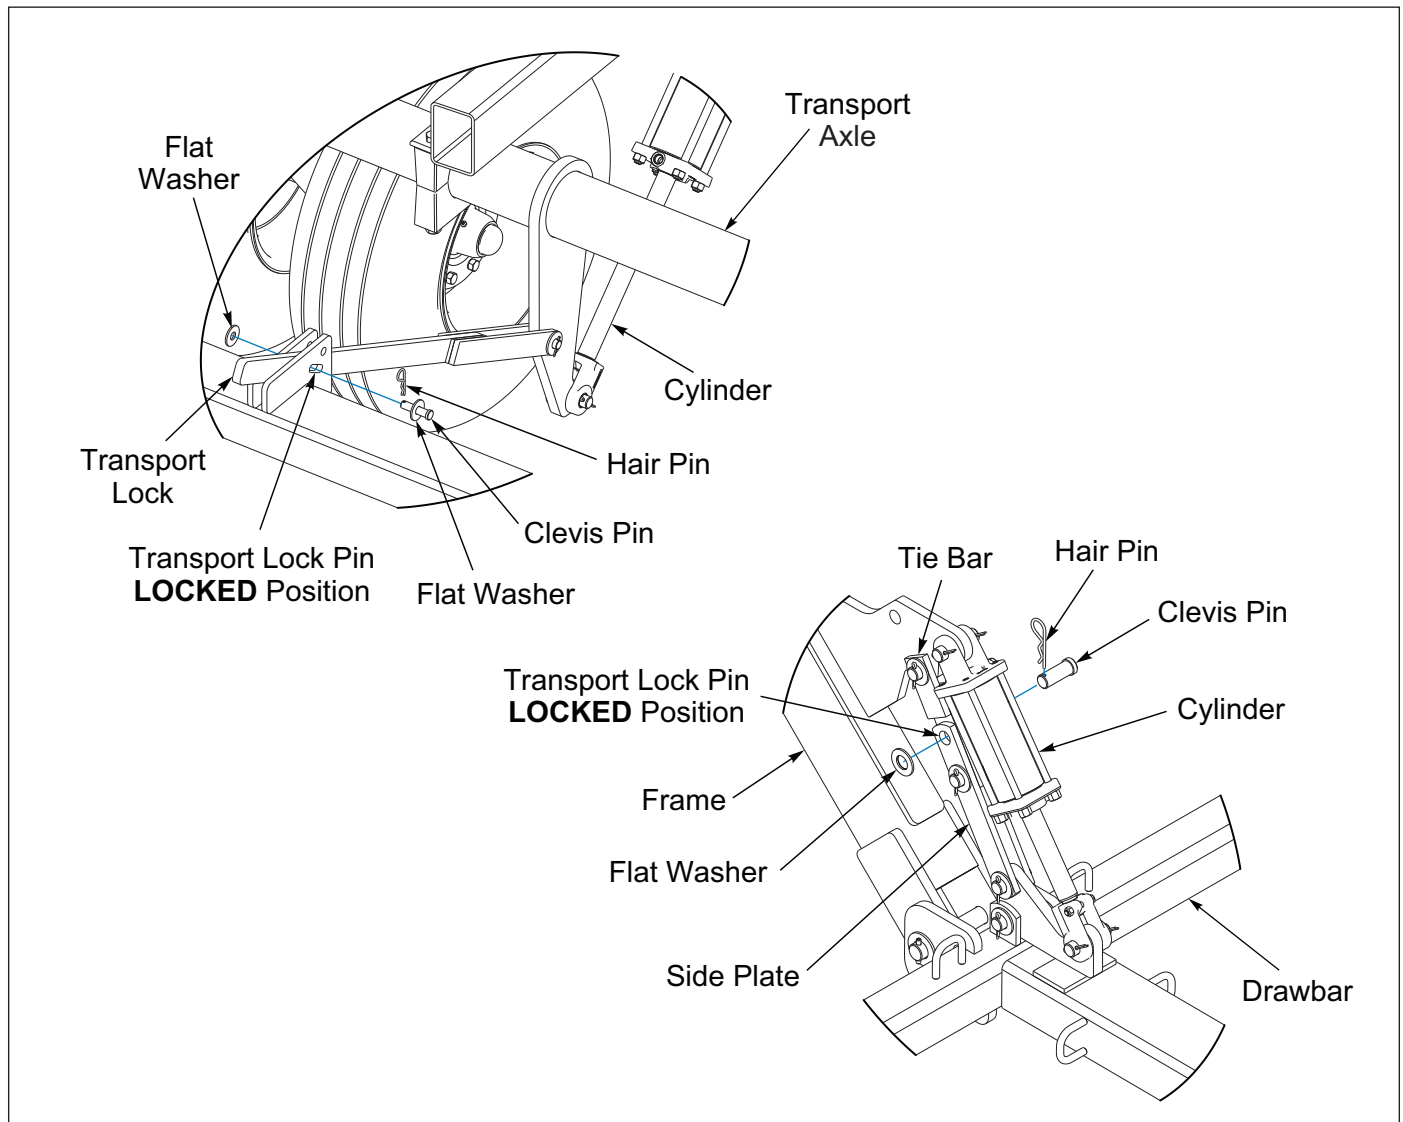

Figure 4-1: Transport Locks in Locked Position
4. Transport locks are provided to hold the implement in a raised position. **See Figure 4-1.** Do not attempt to perform any service work under the implement without first installing the transport locks. Before servicing any hydraulic component, lower the implement to the ground and relieve all system pressure. If a hydraulic component is disconnected, repaired, or replaced, it will be necessary to purge the system of air before operation. **See “Purging the Hydraulic Wing Fold, Transport and Tooth Control Cylinders” on page 2-26** on how to purge the hydraulic systems.